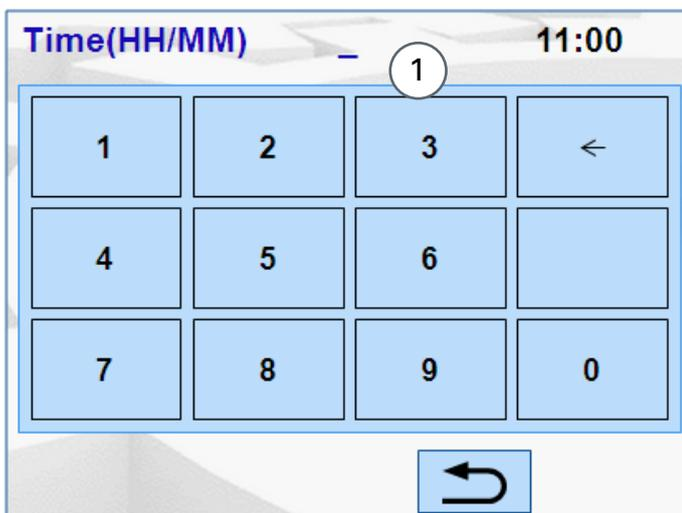

Fig. 28: Set Time
- Set Time: Press this option to set the time or change the currently displayed time to an acceptable format. The following screen appears as shown in Figure 28.